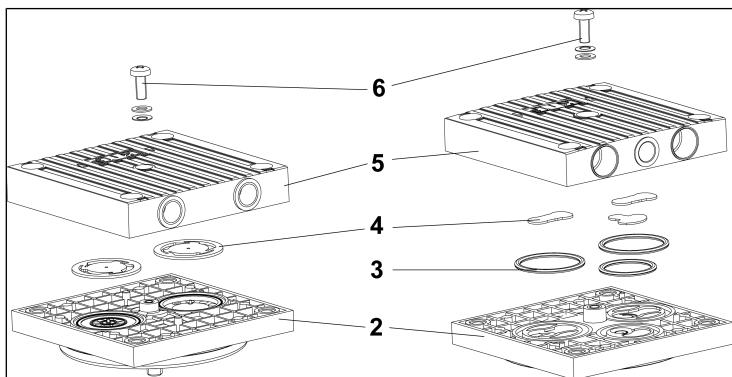

Fig.13: Exploded view of the pump head
9. On both heads, loosen the head screw (6/ Fig. 13) in the head plate (5/ Fig. 13).
10. Remove the head plate from the intermediate plate (2/ Fig. 13).
1. Remove the valves (4/ Fig. 13) from the intermediate plates (2/ Fig. 13).
Remove the O-rings (3/Fig. 13).
3. Insert the new valves (4/Fig. 13) in the intermediate plates (2/Fig. 13).
Insert the new O-rings (3/Fig. 13) in the intermediate plates (2/Fig. 13).
5. Place the head plates (5/Fig. 13) on the intermediate plates (2/Fig. 13) according to the felt tip pen markings (M/Fig. 10).
6. On both heads, tighten the head screw of the head plate (6/Fig. 13) carefully, lightly and hand-tight (tightening torque: 60 Ncm).